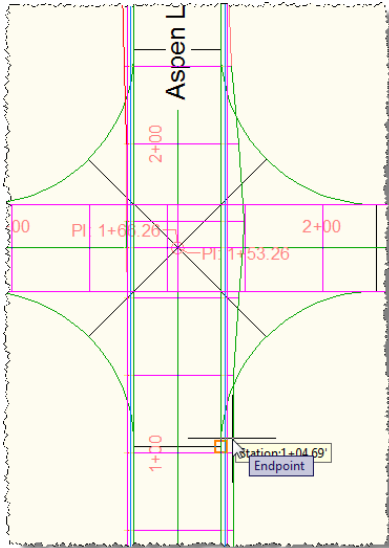

Figure 22
26. In the cad graphic, use object snaps to accurately select the PC station of EOP-SE (Figure 22).